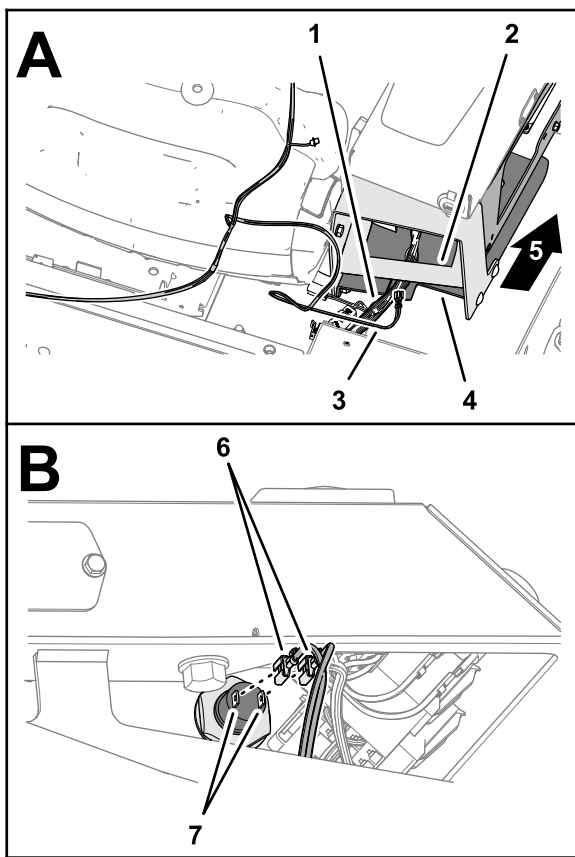

Figure 7
2. At the back of the control console, route the 2-wire branch (the branch with 2 single-receptacle terminals) of the kit wire harness along the platform wire harness and into the console (Figure 7).
3. Assemble the 2 single-receptacle terminals onto the spade terminals of the momentary switch (Figure 7).